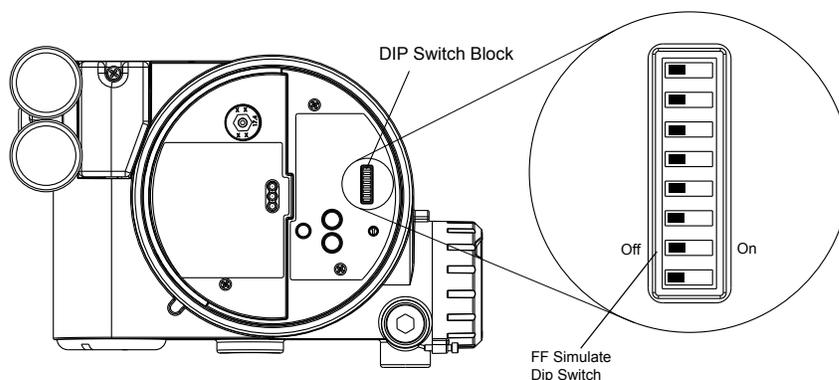

Figure 10.1 Simulation DIP Switch Location on the PCB Cover
**ATTENTION:** A hardware dip switch on the main PCB cover is set to enable or disable the S IMULATE parameter. See Figure 10.1 for dip switch selection. Table 10.10 shows how to set the simulation dip switch on the main PCB cover.